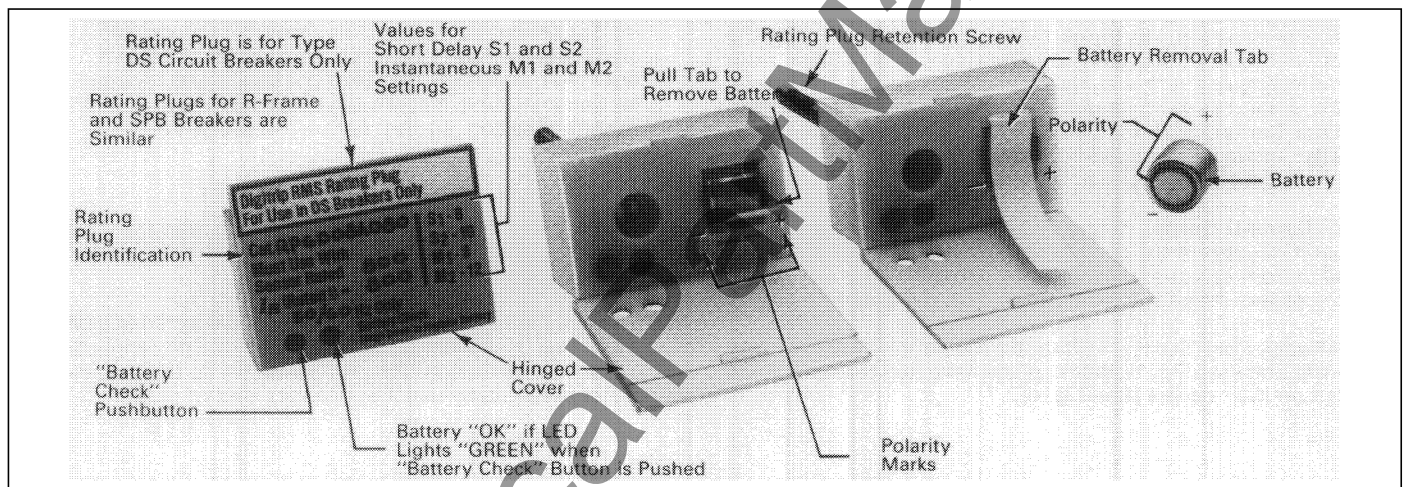

Fig. 6 Typical Rating Plug
The battery is a long life, lithium photo type unit. The status of the battery can be checked at any time by depressing the battery check pushbutton and observing the "GREEN" LED as shown in Fig. 6. If the battery check LED does not light "GREEN", replace the battery. The condition of the battery has no effect on the protection function of the trip unit. Even with the battery removed, the unit will still trip the breaker in accordance with its settings. However, without the battery, the cause of TRIP LED will not be lighted "RED". If the battery is replaced (or if an Auxiliary Power Module is plugged into the trip unit), one or more of the cause of Trip LED's may be illuminated. The user should push the red "TRIP RESET" button to turn off the indications, and the trip unit will be ready to indicate the next cause of trip.
The battery can be easily replaced from the front of the trip unit by lowering the hinged cover of the rating plug as shown in Fig. 6. The battery can then be removed by pulling the battery tab as shown in Fig. 6.
**CARE SHOULD BE EXERCISED WHEN REPLACING A BATTERY TO INSURE THAT THE CORRECT POLARITIES ARE OBSERVED. POLARITY MARKINGS ARE SHOWN ON THE RATING PLUG WHEN THE HINGED COVER IS OPEN AS INDICATED IN FIG. 6.**
The **Rating Plug** (See Fig. 6) fits into a special cavity to complete the trip unit (See Fig. 1). Rating plugs have two current ratings listed on their covers (See Fig. 6):